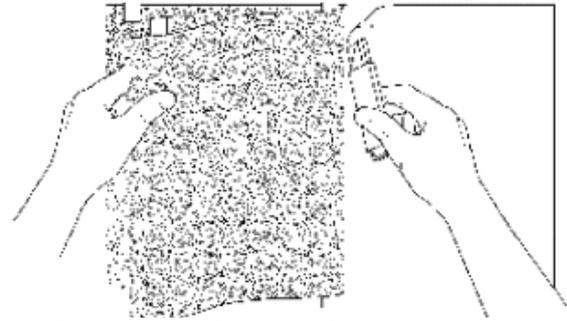

Figure 9. Remove Liner on a Centre Hinged Graphic
4. Fold half of the graphic back over the hinge. Peel off the liner all the way to the tape hinge. Then cut just the liner along the hinge. Discard the liner. See Figure 9.